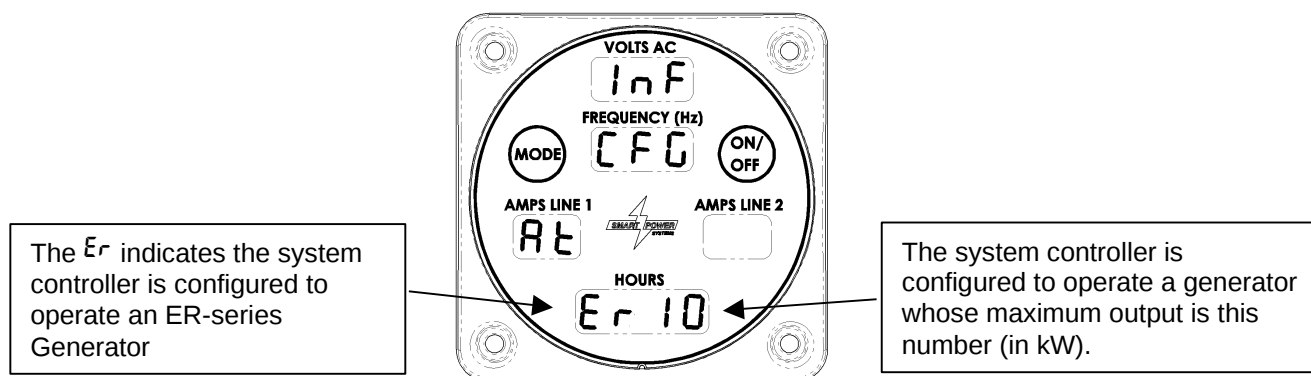

Figure 22 – Example Configuration Display
2. Multiplex developers who have worked with Smart Power Systems® will be able to supply database information and screen layouts to their OEM customers. Potential display screens and available information can be seen in Figures 22 and 23, below. For independent development please contact Smart Power Systems® at (231) 832 5525 for J1939 message details.